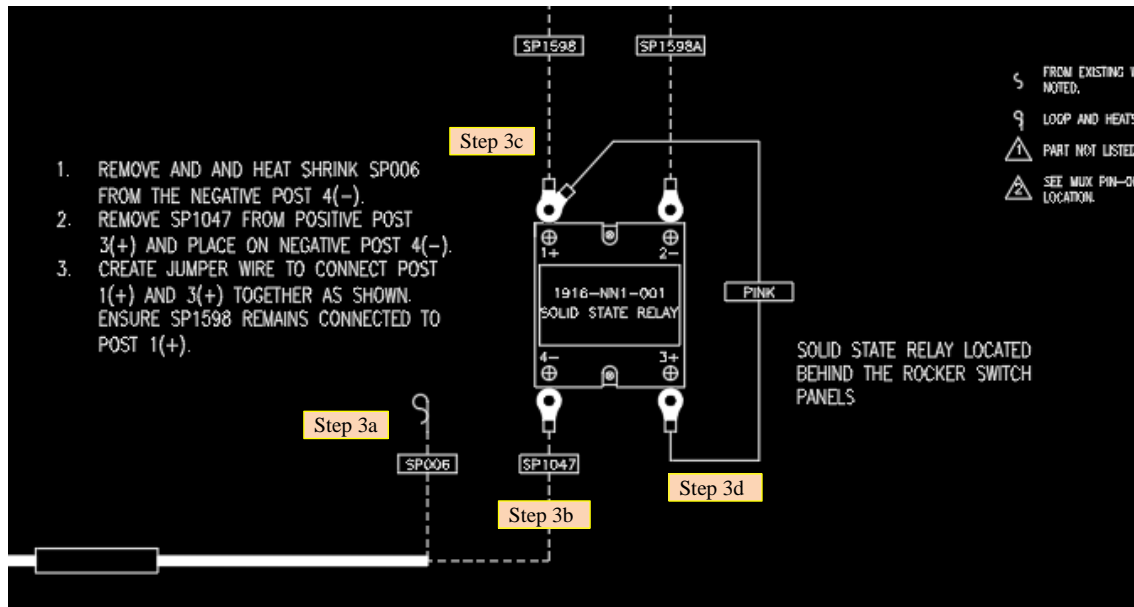

FIG 3-1
3. Use the provided diagram 0221-GG9-3471 to rework the circuits connected to the solid-state relay, as shown in FIG 3-1: